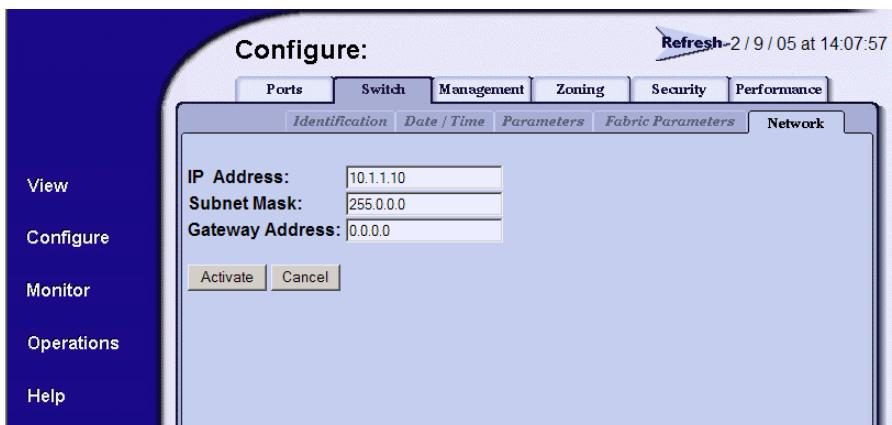

Figure 47 Switch page—Network tab
2. At the Configure window, click the **Switch** tab, then click the **Network** tab. The Switch page is displayed with the Network tab selected (Figure 47).